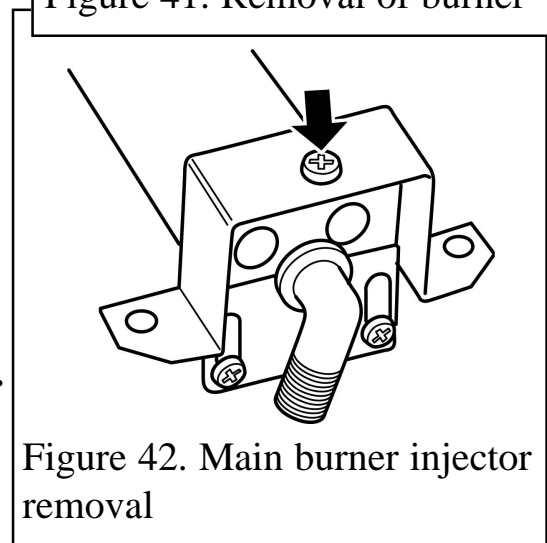

Figure 42. Main burner injector removal
(See figure 42).
2. Remove the burner clamping screw (See figure 42).